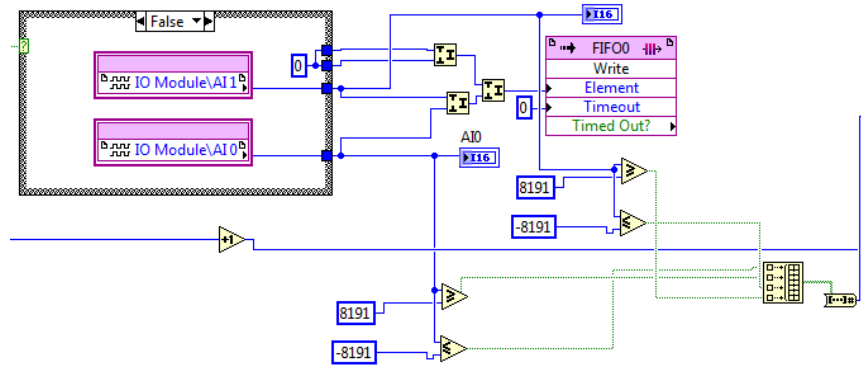

Fig. 32: LabVIEW code for reading analog input channels
12. The use of DMAs is exclusively for the transfer of data acquired by the FPGA. These data are typically the samples of a set of channels of an adapter module connected to the FPGA. Fig. 32 shows how to obtain the ADC codes from channels AI0 and AI1, how to pack the data in a U64 word, and how to write the data to a FIFO memory. Remember that DMA data organization must follow the predefined format.